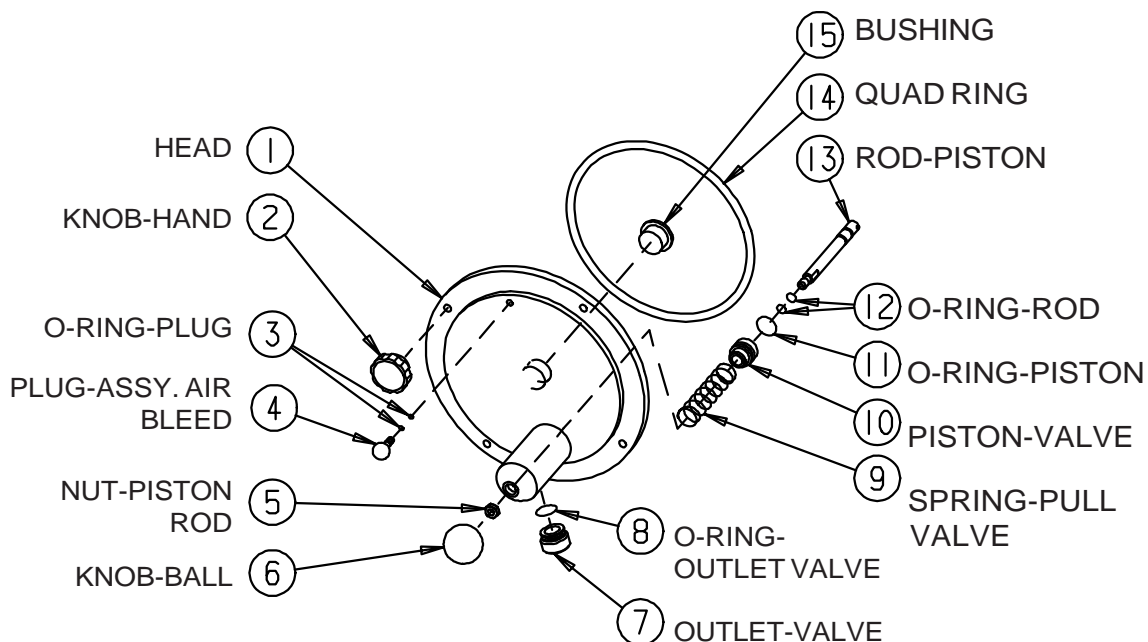

Figure 6-1
2. Remove the four hand knobs (figure 6-1, item 2) and pull the dispensing head (1) straight out.
3. Remove the ball knob (6), nut (5), air bleed plug (4) and valve outlet (7) from the head (1).
4. Remove the piston assembly (10, 11, 12, 13) and spring (9) by pushing the piston rod (13) through the back of the head (1).